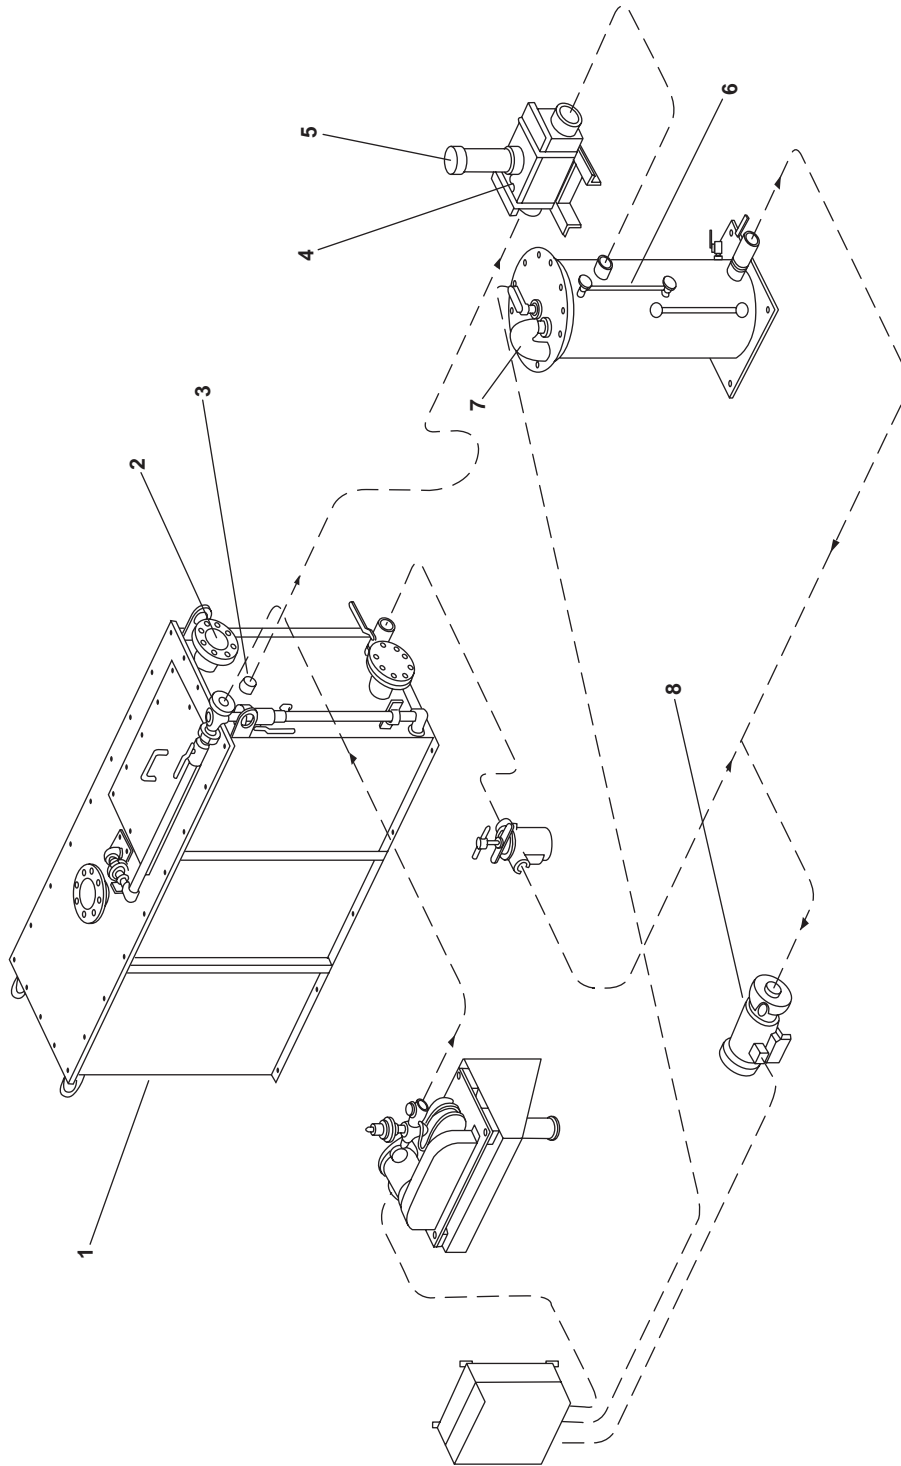

Figure 1. MSD Schematic
All raw sewage from the water closets on the main deck and 01 level flows to the media tank (figure 1, item 1). Potable water for flushing carries waste from the toilets to the media tank using 4" drain lines and 1 ½" vents.
The water level in the media tank is maintained at a constant level. As raw sewage enters the media tank via the 4" inlet (figure 1, item 2), an equal volume of treated clear effluent is displaced into the spillover pipe (figure 1, item 3). This effluent passes through the tablet chlorinator (figure 1, item 4), where it is disinfected.
As the water passes through the tablet chlorinator (figure 1, item 4), calcium hypochlorite tablets are dissolved, releasing chlorine into the effluent. The amount of chlorine released is proportional to flow. A full feed tube (figure 1, item 5) holds 20 five-ounce tablets, equaling 6.25 lb (2.83 kg). Expected tablet consumption is determined by water usage. Leaking fixtures will greatly increase water usage and tablet consumption.
Clear and odorless water flows from the media tank (figure 1, item 1) through the spillover pipe (figure 1, item 3) and trap into the wet well (figure 1, item 6). The wet well is a retention tank sized for adequate disinfection time during peak flow periods. The wet well vent (figure 1, item 7) is open to the immediate environment. The disinfected water is discharged overboard by the discharge pump (figure 1, item 8).
The discharge pump (figure 1, item 8) handles the peak flows expected for the system. The pump assembly includes a pump, isolation valve, discharge pressure gauge, float switch for automatic operation, motor, and a motor starter. As the water level in the wet well rises, the "pump on" float switch automatically starts the discharge pump, which discharges the water overboard. When sufficient effluent is discharged from the wet well, the float switch stops the discharge pump.